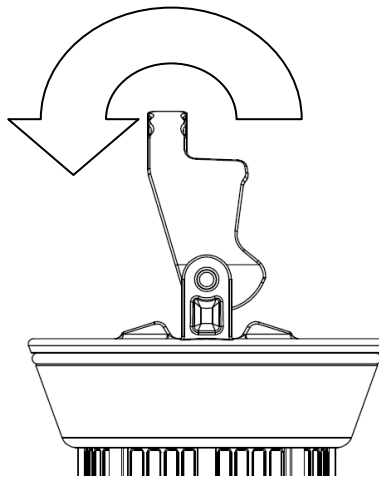

Fig. 6: Handle rotated 90° (side view)
- 2.5.1.3 Rotate basket handle approximately 90° upwards (towards top of vessel). This motion will unlock the bag retaining ring. (See fig. 6.)